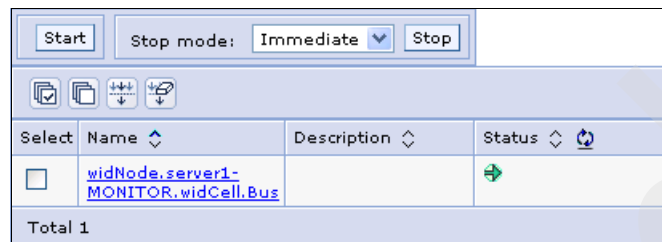

Figure 5-77 Checking the Monitor bus message engine
9. One messaging engine is defined, and the Status field shows a green arrow indicating that the messaging engine is active (Figure 5-77). Click the messaging engine.